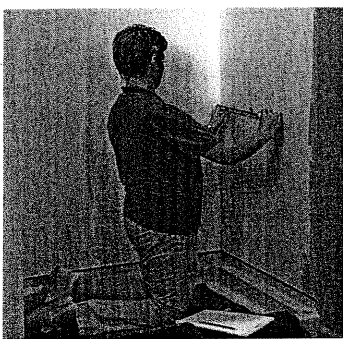

Figure 3
*Measure the distance from the corner to the center of each plumbing pipe.* See figure 3. Write down your measurement.